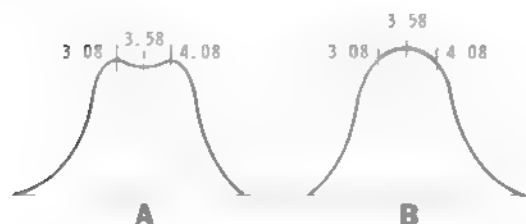

Figure 16
- () Reconnect the equipment as shown in Figure 16 (fold-out from Page 75).